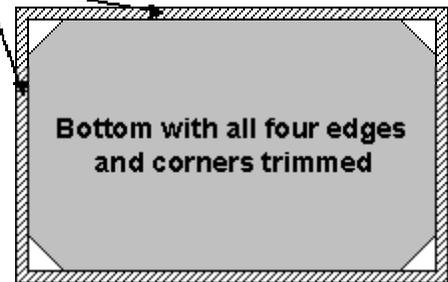

Figure 4
4. Trim [PT] from all 4 sides of the bottom pieces, and trim the corners. See Figure 4. (If you don't trim the corners, it will be difficult to get the bottom in and out of the box.)